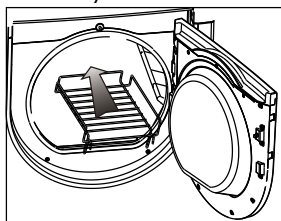

Fig.2
4. Lift the dryer rack horizontally into the drum.(Fig.2)